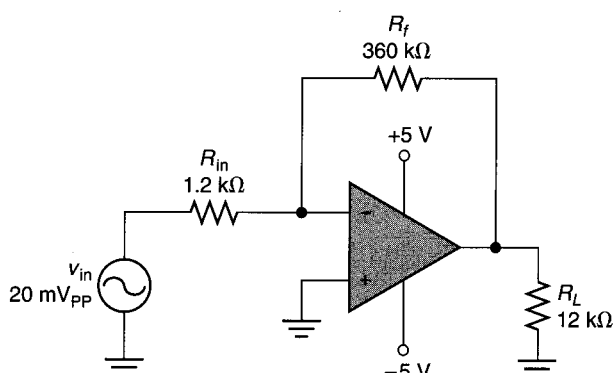

FIGURE 15.68
34. The circuit shown in Figure 15.68 has a measured  $f_{C2}$  of 100 kHz. What is the value of  $f_{unity}$  for the op-amp?
42. Calculate the values of  $A_{CL}$ ,  $Z_{in(f)}$ , and  $Z_{out(f)}$  for the circuit shown in Figure 15.68. Assume that the op-amp has the following ratings:  $A_{OL} = 180,000$ ,  $Z_{in} = 3 \text{ M}\Omega$ , and  $Z_{out} = 75 \Omega$ .